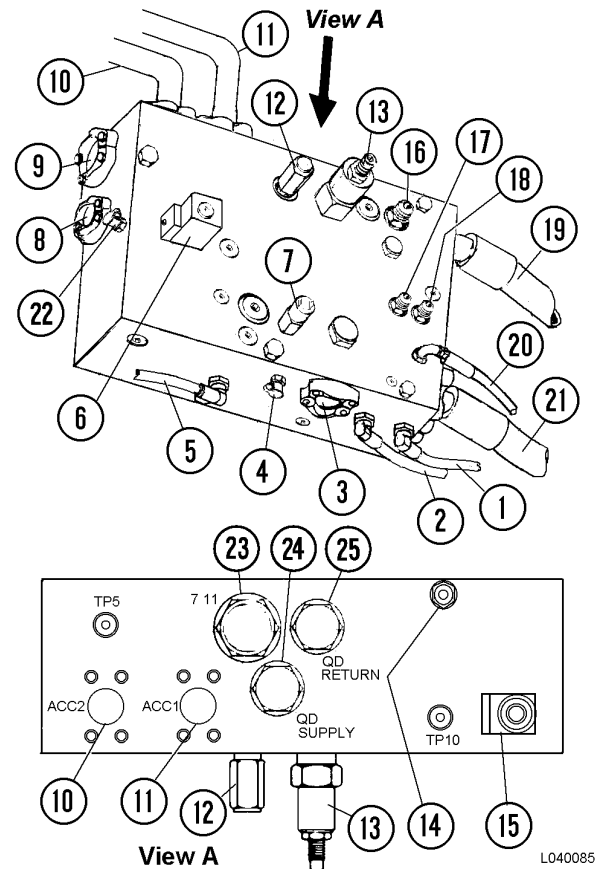

FIGURE 6-1. BLEEDDOWN MANIFOLD
2. Remove the protective cover from the manifold. Disconnect the wires from solenoids (6, Figure 6-1) and (15), and pressure switch (7).